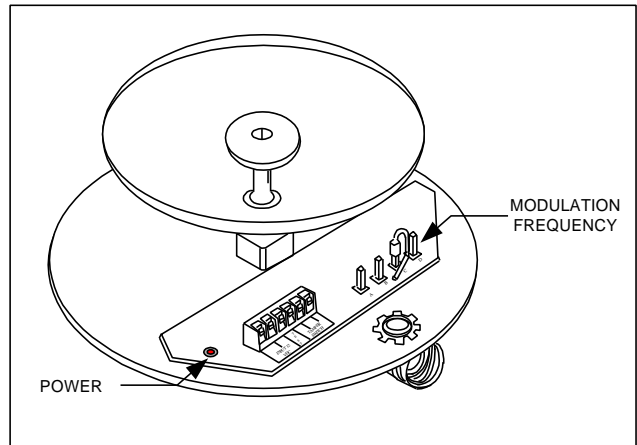

Figure 18 – Model 300BT Transmitter
2. Attach PCB jumper wire to appropriate terminal to select desired channel. (See Figure 18.)
3. Check for Transmitter operation by monitoring the Transmitter “ON” LED on the Transmitter Power Supply Board. (See Figure 18).